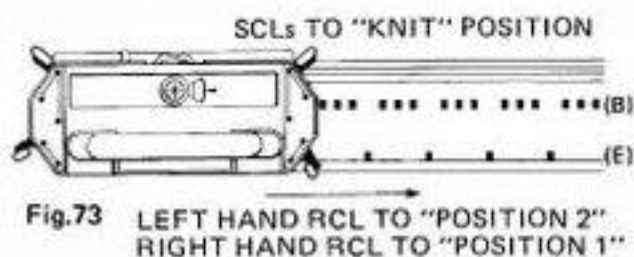

Fig.73
- With carriage on left, pull forward the leading (right hand) RCL to "Position 1". (Fig. 73)